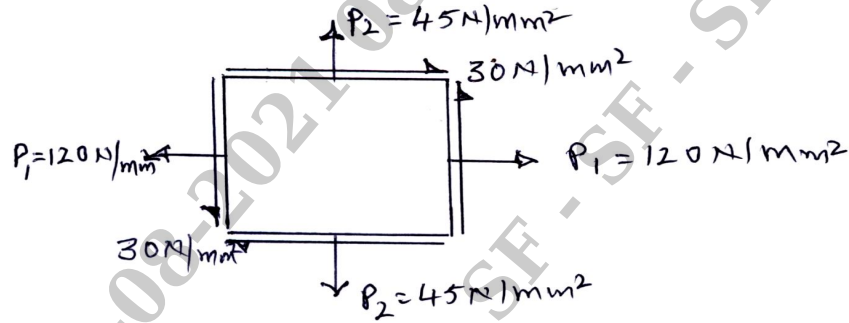

Fig.Q.3(c)
- c. An element in plane stress is subjected to stresses $P_1 = 120\text{N/mm}^2$ and $P_2 = 45\text{N/mm}^2$ and shear stress 30N/mm^2 as shown in Fig.Q.3(c). Determine the normal stress, shear stress, major principal stress, minor principal stress and maximum shear stress acting on an element rotated through an angle $\theta = 45^\circ$. **(10 Marks)**